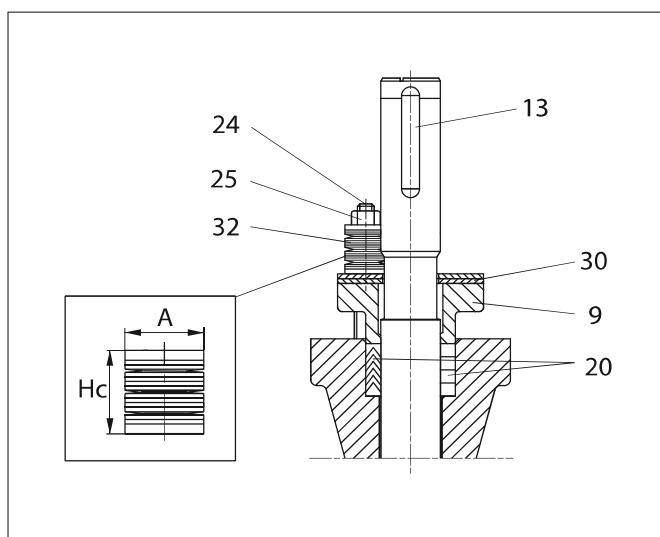

Fig. 18 Gland packing, RE/RE1
In gland packings, tightness is ensured by the contact between the gland follower and the packing rings. See Fig. 18.
- Remove the key (13).
- Remove the hexagon nuts (25), disc spring sets (32), one stud (24), retaining plates (30) and gland follower (9).
- Remove the packing rings (20) from around the shaft using a knife or some other pointed instrument without scratching the surfaces.
- Place the new packing rings (20) over the shaft (11). The gland follower may be used for pushing the rings into the counterbore. Do not damage packing rings in the shaft keyway. See Fig. 18.
- Deform the packing rings first by tightening the gland nuts (25) without disc springs to the torque T_t, see the value from Table 3.
- Remove the gland nuts and one stud. Mount the retaining plates (30) with the text UPSIDE on top and the removed stud and place the disc spring sets (32) on the gland studs. Tighten the nuts (25) so that the disc springs are compressed to the height Hc, see Table 3. Lock the nuts with locking compound e.g. Loctite 221. See Fig. 18.